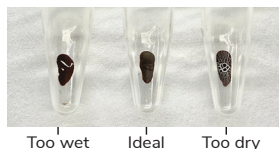

FIGURE 1
19. Remove tubes from magnet. Air-dry, caps open, 2-3 min at RT. Beads should appear damp matte brown (see Ideal in Figure 1).